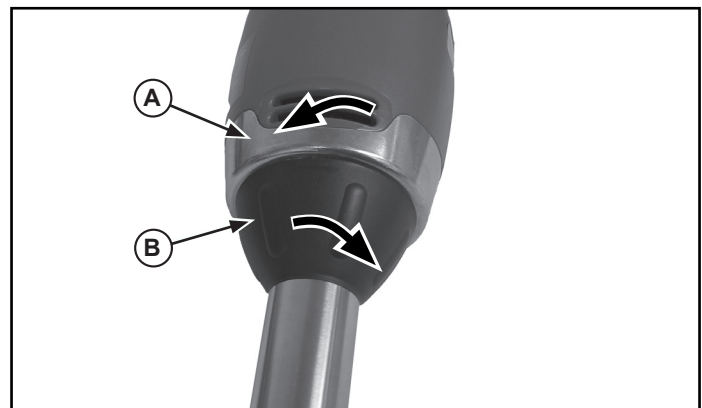

Figure 6. Removing the Attachment Arm from the Power Head.
9. Remove the attachment arm (B) from the power head (A) by rotating until disconnected in the direction shown. See Figure 6.